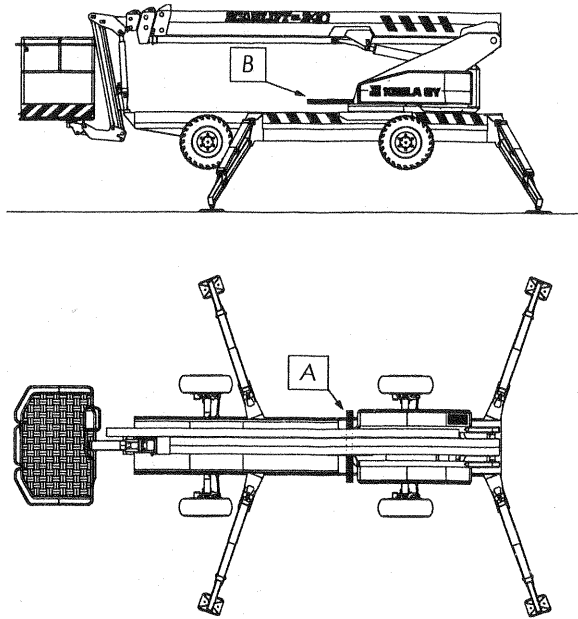

Figure 14-1
2. Place a precision spirit level at point A (figure 14-1) and bring the MEWP to a level in crosswise direction with an accuracy of $\pm 0,5^\circ$ with the help of the outriggers.
3. Place a precision spirit level at point B (figure 14-1) and bring the MEWP to a level in crosswise direction with an accuracy of $\pm 0,5^\circ$ with the help of the outriggers.